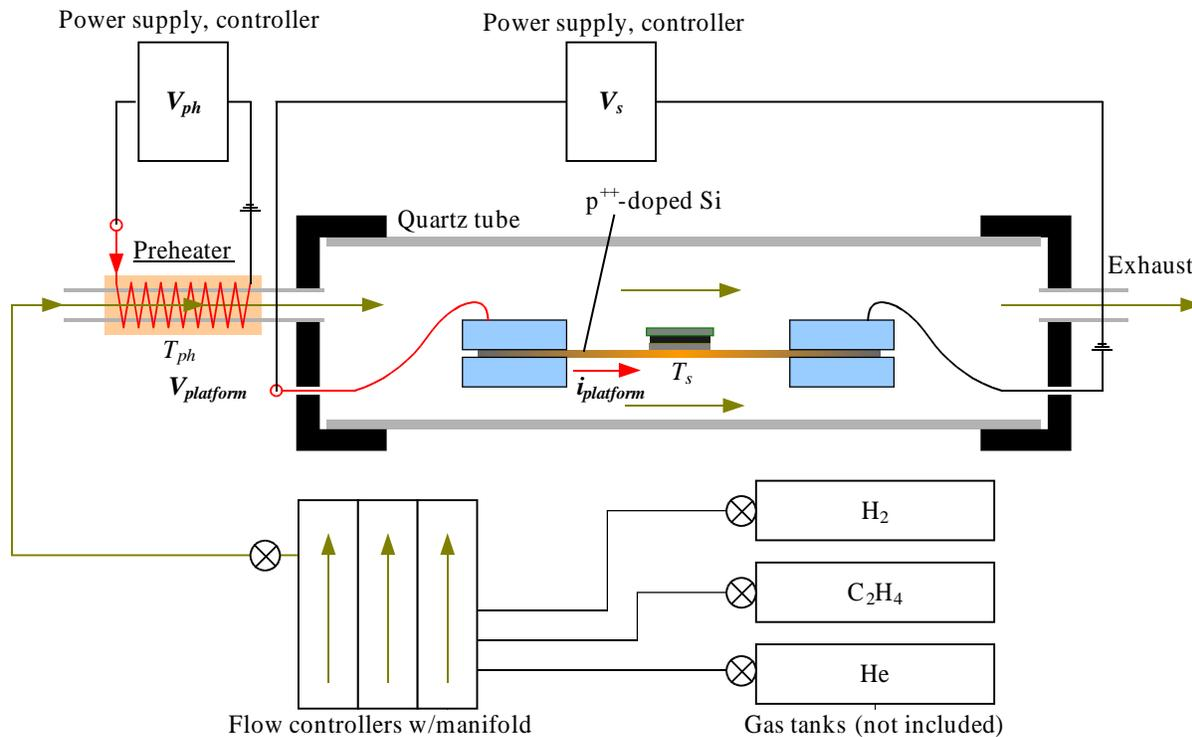

Figure 1. Simplified diagram of SabreTube setup with gas tanks, flowmeters, and power supplies.
- Appropriate gas flow meters/controllers (customer supplied and connected, Fig. 1).